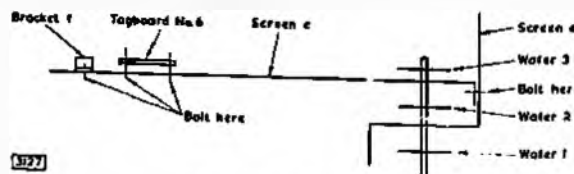

Fig. 6—SCREEN POSITIONS
- (1) The erase and record playback coaxial sockets which have to be fitted to the chassis beneath wafer 3 of switch SA.
- (2) The nylon-loaded valveholder for the ECC83 complete with the skirt for the screening can. The gap between pins 1 and 9 should face towards the coaxial sockets.
- (3) A five-way tag board (Bulgin, type C120). This should be bolted to the internal screen c in the position marked 'Tagboard No. 6' in the screen assembly diagram of Fig. 6.
- (4) The small fixing bracket f, which should be bolted to the screen c as indicated in Fig. 6.
After fixing the components listed above, the construction is continued by assembling wafers 1 and 2 of switch SA around the internal screen d. The wafers should be arranged so that positions 6 and 7 are at the bottom and the face of each wafer described as the 'rear' in the switch diagram (Fig. 5) is farthest from the switch plate. The internal screen c should be added to the assembly, both screens should be bolted together, and wafer 3 should be fitted in position, again with its 'rear' face (Fig. 5) farthest from the switch plate. The general arrangement of the switch wafers and internal screens is shown in Fig. 6. Details of spacers required for the assembly are shown in Fig. 5.